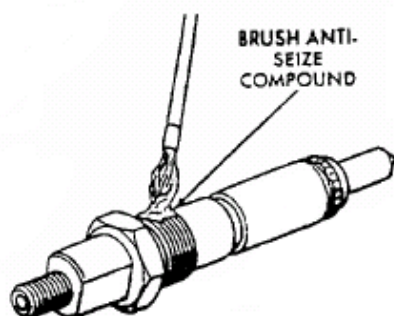

Fig 7: Apply-Seize Compound
- 3: Apply a coating of anti-seize compound to the threads of the injector holddown nut and between the top the nut and injector body (Fig 7).